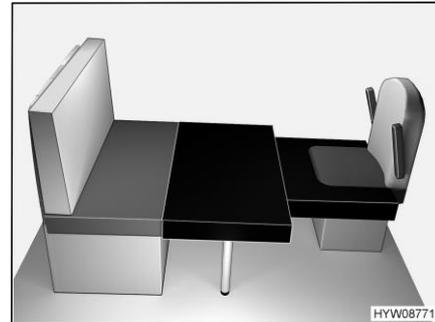

Fig. 66 After conversion
- Place big additional cushion on the table top (Fig. 66).
- Place small additional cushion on the driver's seat (Fig. 66).